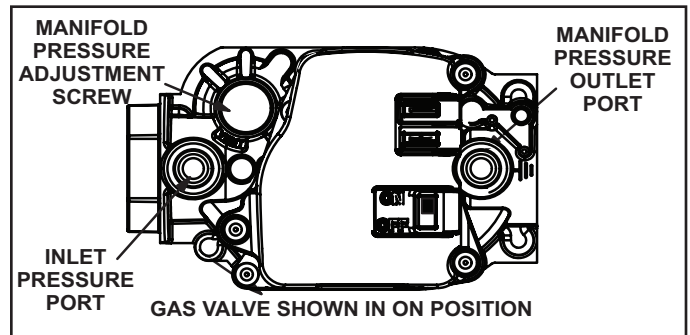

FIGURE 51
Gas Valve Operation (FIGURE 51)
- 6 - Move gas valve switch to **OFF**. See FIGURE 51.
- 8 - Move gas valve switch to ON. See FIGURE 51.
When testing supply gas pressure, use the 1/8" N.P.T. plugged tap or pressure post located on the gas valve to facilitate test gauge connection. See FIGURE 51. Check gas line pressure with unit firing at maximum rate. Low pressure may result in erratic operation or underfire. High pressure can result in permanent damage to gas valve or overfire.